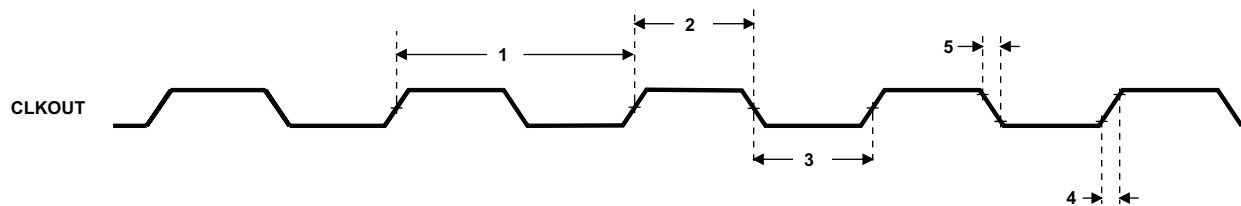

Figure 6-10. CLKOUT Timing
Table 6-5. Switching Characteristics Over Recommended Operating Conditions for CLKOUT(1) (2) (see Figure 6-10)